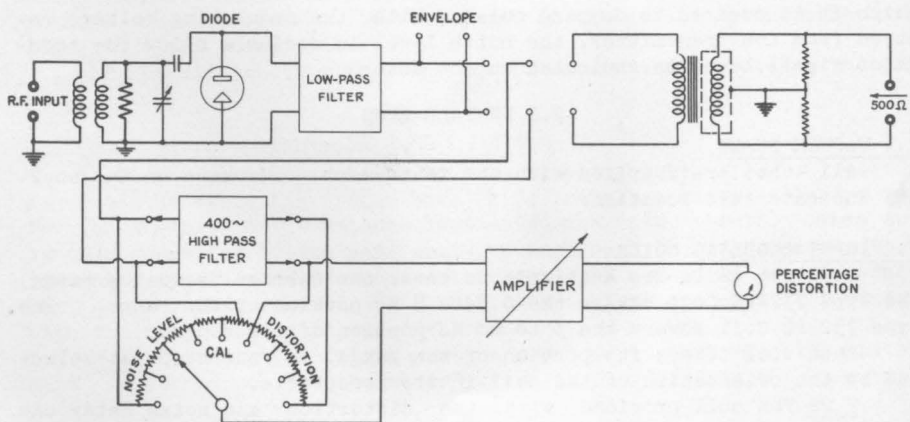

FIGURE 1. Schematic circuit diagram of Type 732-B Distortion and Noise Meter
1.31 Schematic Circuit Diagram: The operation of the Type 732-B Distortion and Noise Meter is shown by Figure 1.